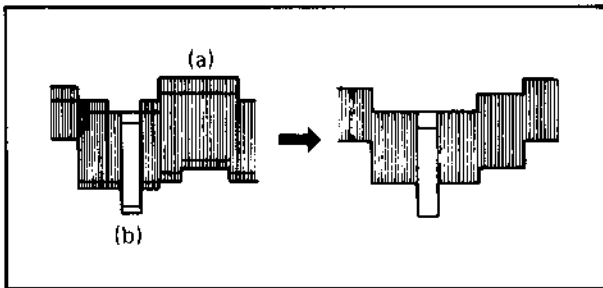

Fig. 6-23 Limiter and Carrier balance
5. Adjust R98 (LIMITERBAL-2) and R89 (CARRIER BAL.) so that the peak white (a) and sync tip (b) becomes a single line as shown in Fig. 6-23.